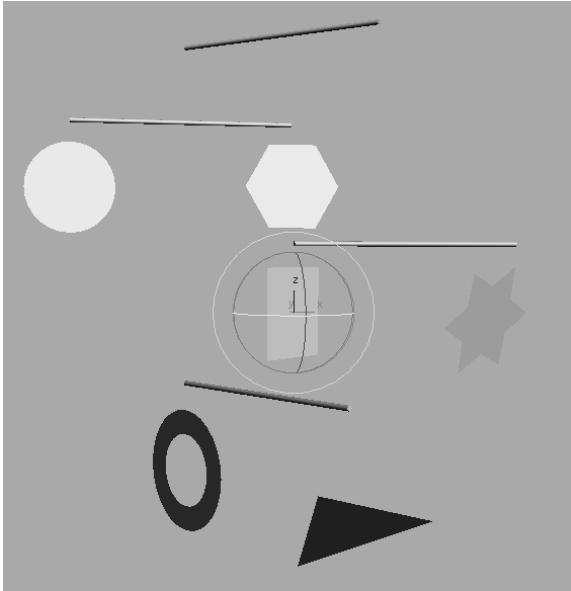

Figure 8.4
3. The square and the bar linked beneath it should snap back into axis. Scrub the animation, and you'll see that the square and the bar beneath it are not behaving as you would expect: they are rotating on the Z-axis only, as they should. Figure 8.4 shows the resulting animation. Notice that the star and triangle are still rotating off axis.